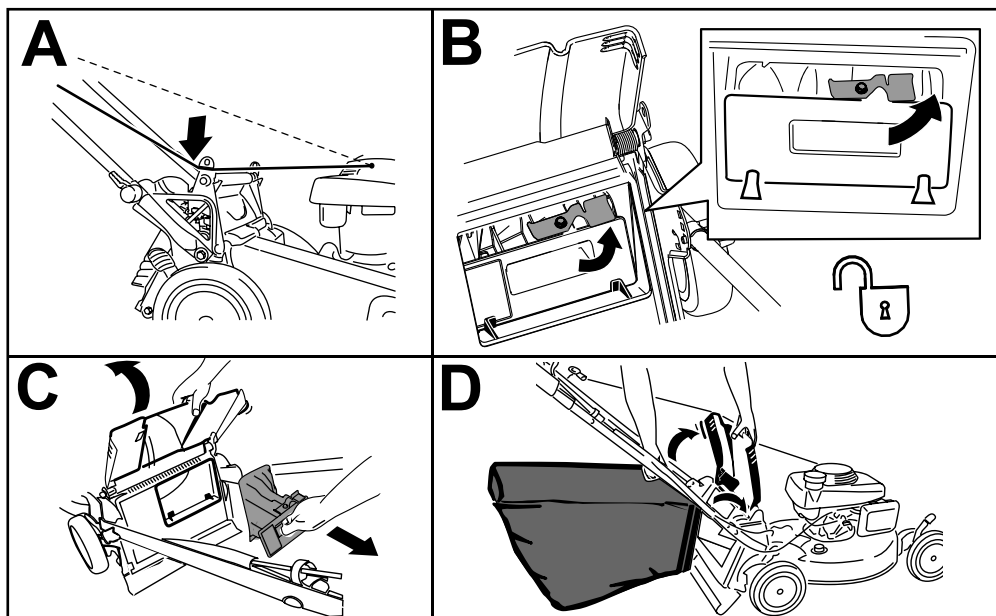

Figure 16
Note: To unlock the rear plug, rotate the lever on the plug to the right (Figure 16).
1. Route the starter rope around the lower-rope guide (A of Figure 16).
2. Raise and hold up the rear deflector and pull out the rear plug (B of Figure 16).
3. Pull out the rear plug (C of Figure 16).
4. Hang the upper front edge of the bag from the grass-bag pins on the notches of the handle brackets (D of Figure 16).